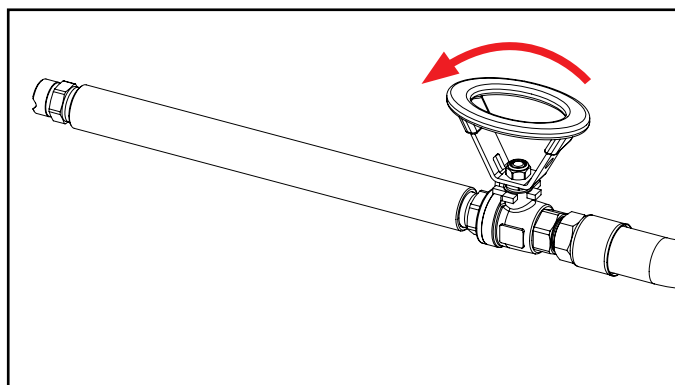

Fig. 5.2: Spray wand with open valve.
3. Open ball valve on spray wand [Fig. 5.2]